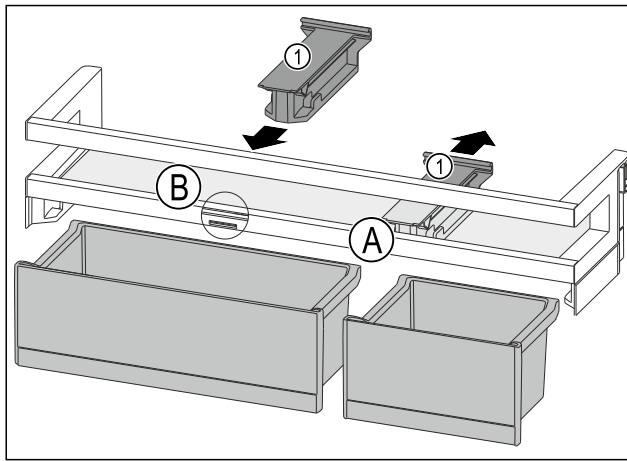

Fig. 115
- Take off the holding part Fig. 115 (1) in position Fig. 115 (A) backwards.
- Insert the holding part Fig. 115 (1) in position Fig. 115 (B).